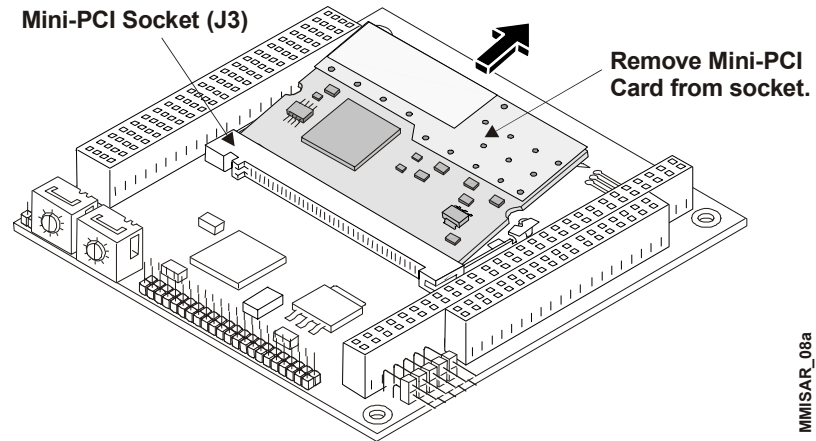

Figure 3-7. Removing Mini-PCI Card from Socket
7. Lift the Mini-PCI card by its edges and completely remove it from the socket. See Figure 3-7.